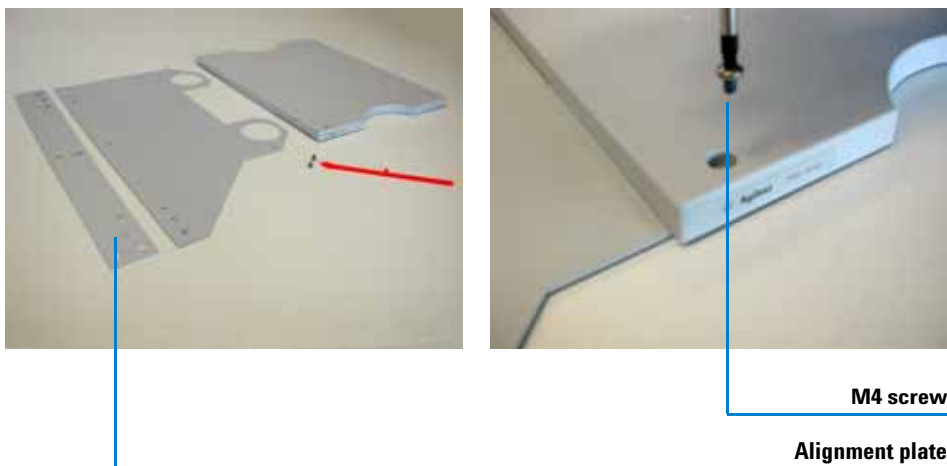

Figure 11 Assembling the alignment plate assembly
- 13** Assemble the alignment plate assembly. Use the two M4 screws from the G2254A automation interface package to screw the sheet metal part with two big holes together with the plastic part (see Figure 11).